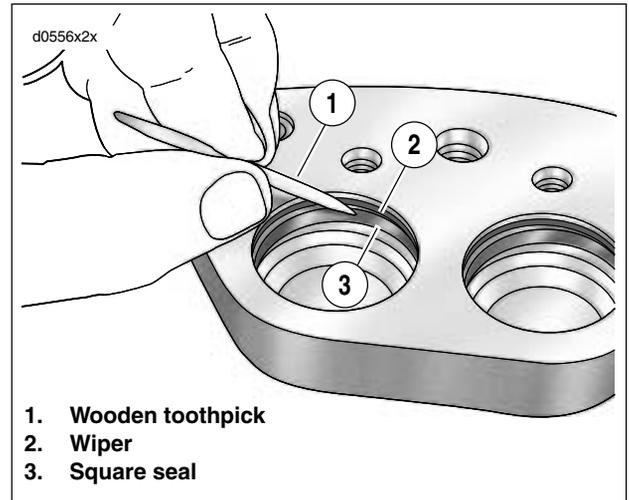

Figure 2-44. Wipers and Square Seals
- See Figure 2-44. Using a wooden toothpick (1), remove a wiper (2) and square seal (3) from each caliper bore. Discard all removed parts.
2. See Figure 2-44. Install a **new** square seal (3) and a **new** wiper (2) into each piston bore.